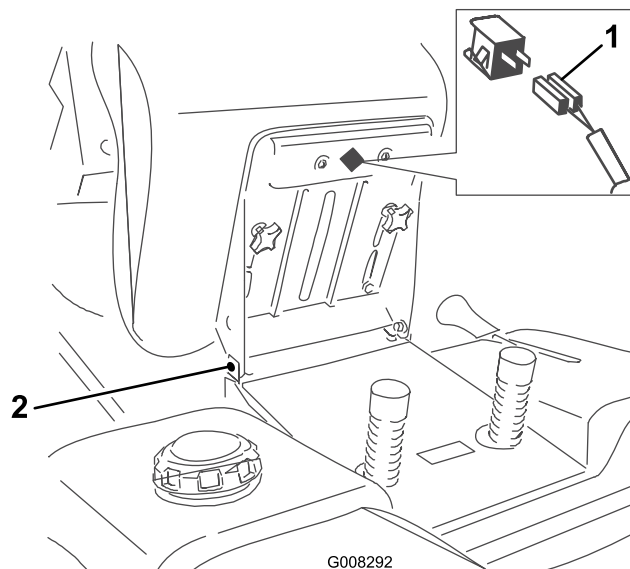

Figure 2
3. Set the seat in place and secure it with the two bolts, spring washers, and flat washers (Figure 2).
4. Ensure that the safety switch is connected to the seat (Figure 2).